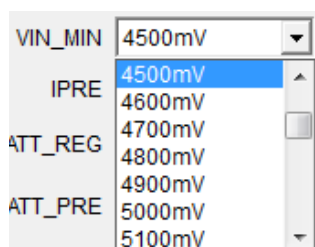

Figure 7: Input Voltage Clamp Limit Configuration
5. Set the input voltage clamp limit (see Figure 7).